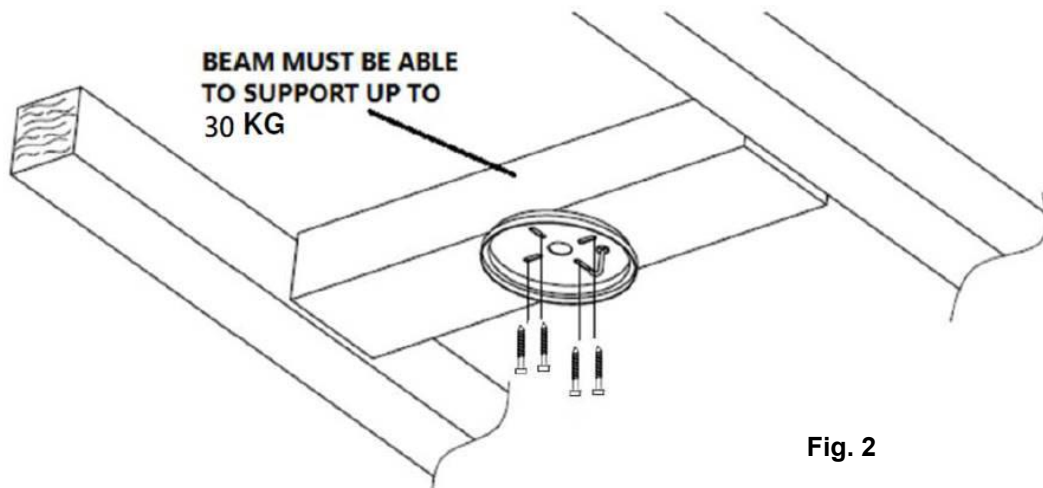

Fig. 2
- Install the hanging bracket to the ceiling joist or structure that is capable of carrying a load of at least 30kg, with four long screws provided. Ensure at least 30mm of the screw is threaded into the support. (Fig. 2)